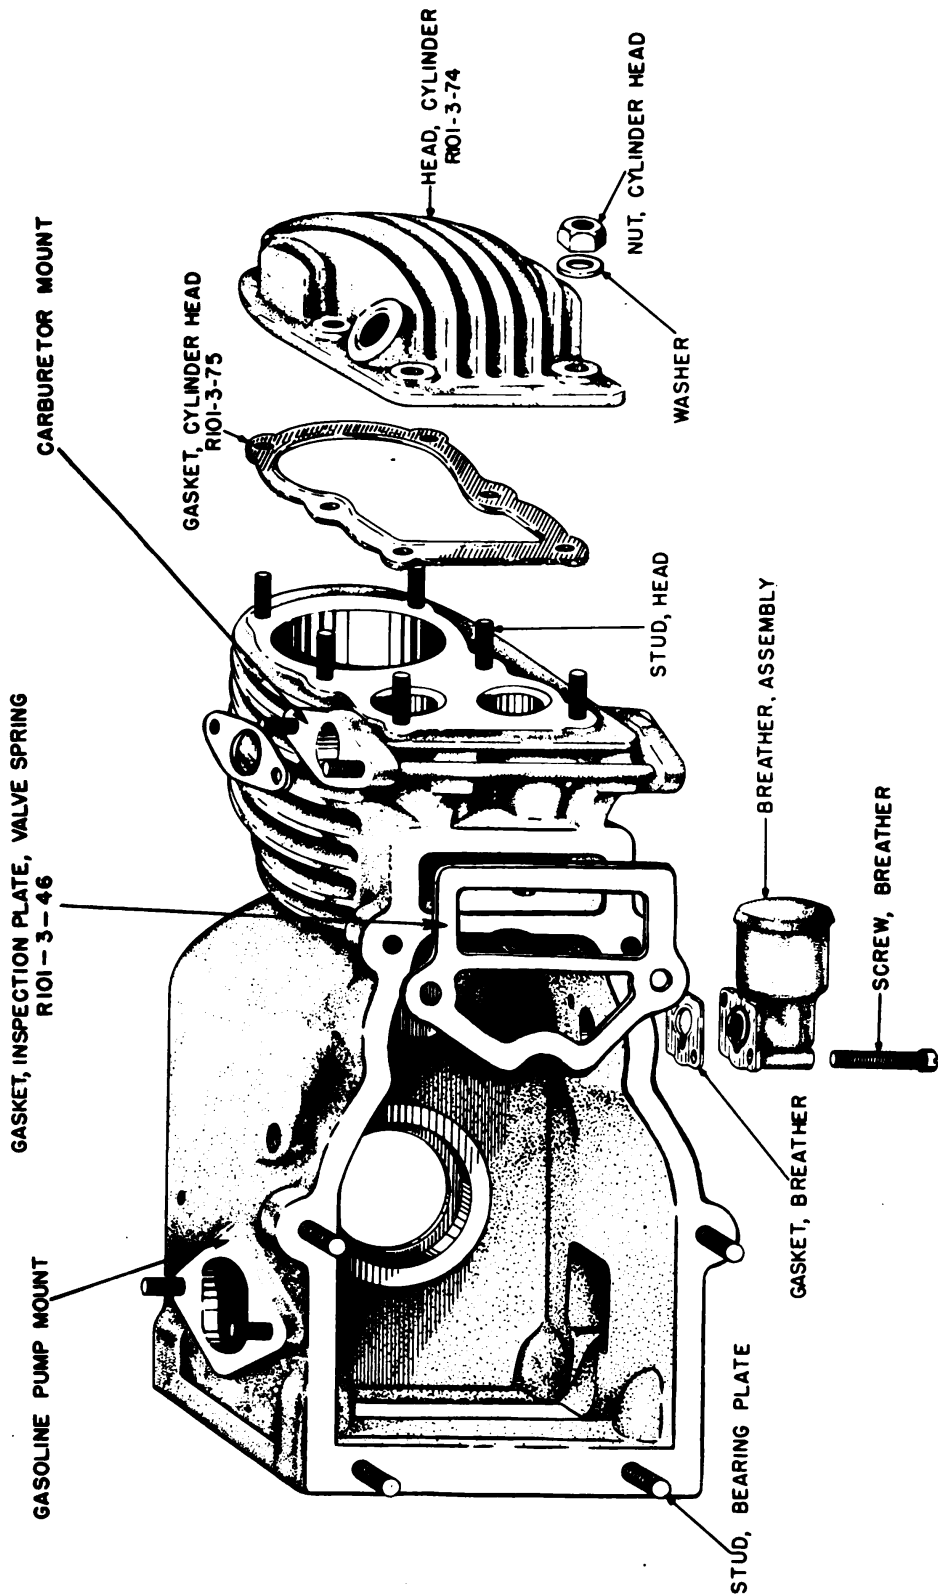
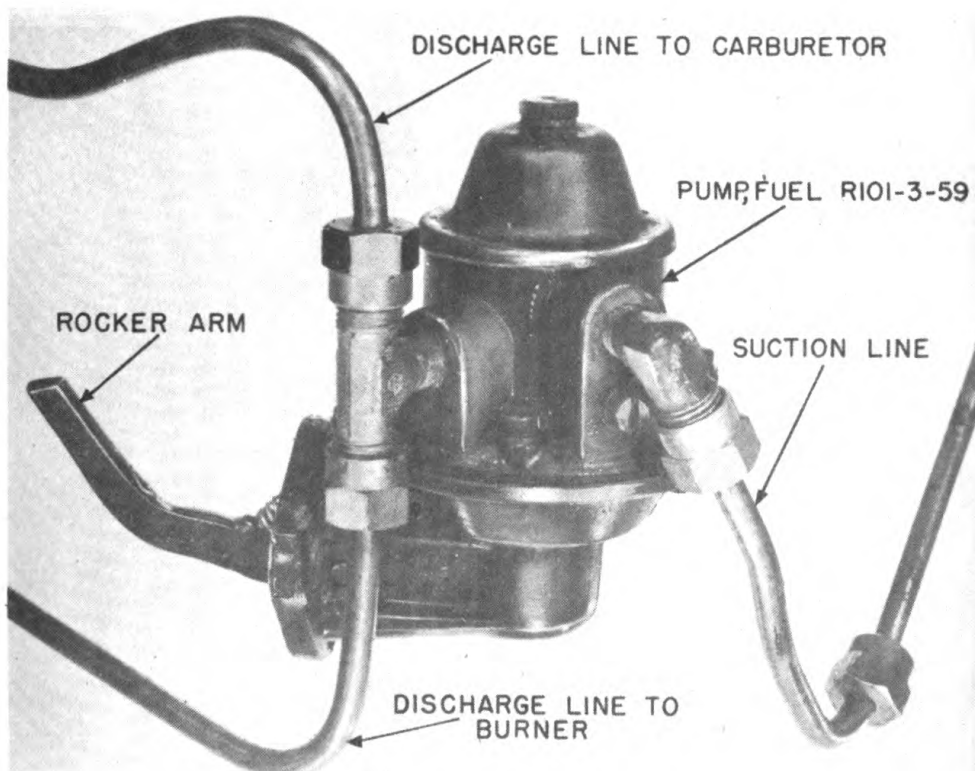

Fig 59. Upper portion of cylinder block showing Chemical Warfare Service nomenclature of parts.
Fig 64. Gasoline pump freed from cylinder block with some fittings still attached. ("Pump, fuel" is Chemical Warfare Service nomenclature for this pump.)
56. CYLINDER BLOCK. Using personnel are responsible for replacement of cylinder head gasket, replacement of valve spring inspection plate gasket, and for cleaning engine valves, cylinder face, and underside of engine cylinder head. They are also permitted to replace cylinder head in emergencies. Location of parts mentioned is shown in figure 59, together with Chemical Warfare Service nomenclature.
- g. It is now possible to withdraw pump and those fittings still attached to it from cylinder block (fig 64). In withdrawing pump, pull it up and out to free rocker arm. (Fig 64)
- h. Detach from pump the discharge line to burner, the discharge line to carburetor, and the suction line (fig 64). Do not remove rocker arm as it is part of pump.
Remove old pump as directed in paragraph 62. Attach new pump by inserting rocker arm (fig 64) into opening in cylinder head and by tightening two hex nuts which hold pump to gasoline pump mount (fig 59) on lower part of cylinder head.